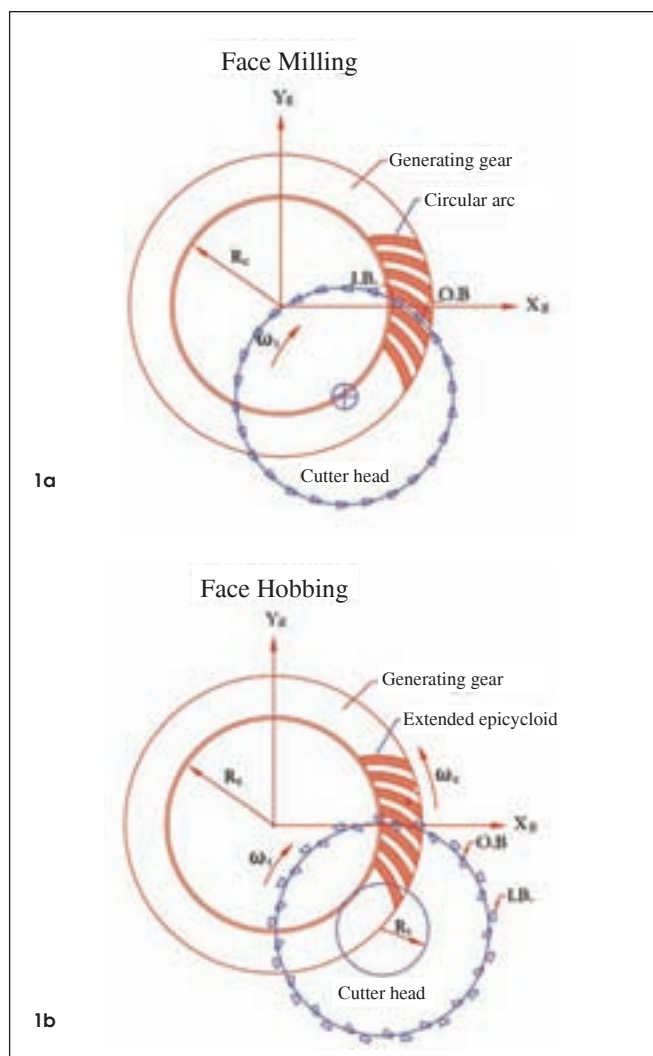

Figure 1—Face milling vs. face hobbing.
(1) In the face hobbing process, a timed continuous indexing is provided, while in face milling, the indexing is intermittently provided after cutting each tooth side or slot, which is also called single indexing (Fig. 1). Similar to face milling, in face hobbing, the pinion is cut with generating method, while the gear can be cut with either generating method or non-generating (FORMATE) method. The FORMATE method offers higher productivity than the